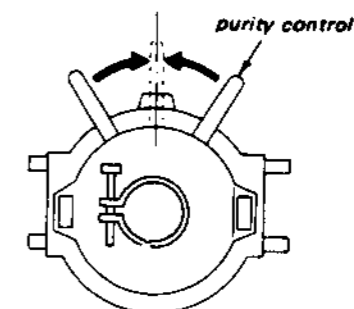
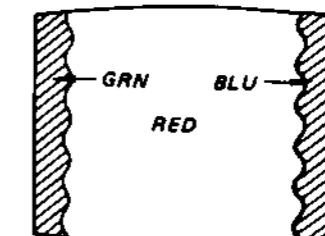

Fig. 3-1
Fig. 3-2
- 3 Loosen the deflection yoke mounting screw, and set the purity control to the center as shown in Figure 3-1.
- 4 Set BKG VR (R) to maximum and set (E) and (G) to minimum.
- 5 Move the deflection yoke back, and adjust the purity control so that (R) is in the center and (E) and (G) are at the sides, evenly. (Figure 3-2.)
- 7 Substitute (G), then (E) for (R) in step 4 and check landing.
- 8 Rotate (R), (E) and (G) once each and check landing.